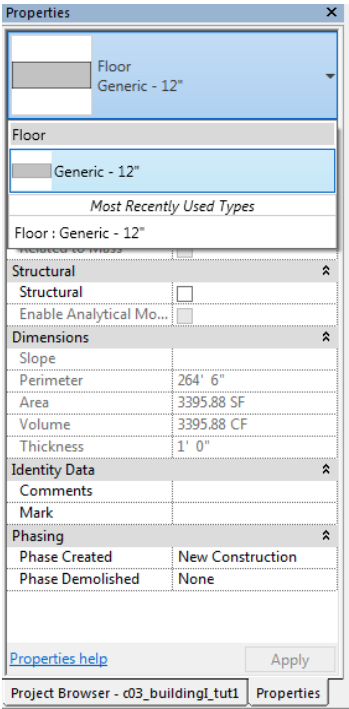

Figure 3-89 Selecting the **Generic 12"** floor type
- 10. By default, **Floor : Generic 12"** option for Imperial (**Floor : Generic 300mm** for Metric) from the **Type Selector** drop-down list in the **Properties** palette is selected, as shown in Figure 3-89.